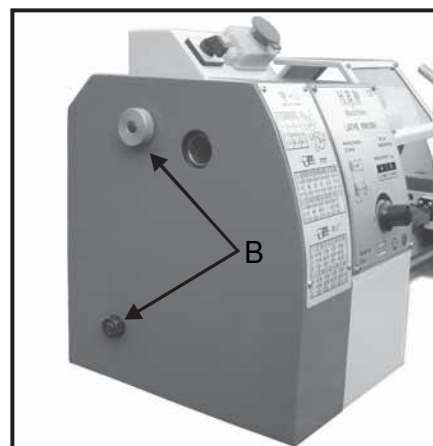

Fig. 15
1. Unscrew the two fastening screws (B, Fig.15 and remove the protective cover.